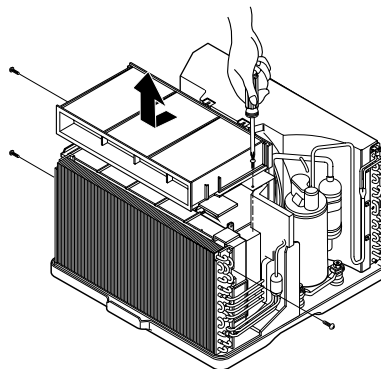

Figure 15
7. Remove the air guide upper. (See Figure 15)